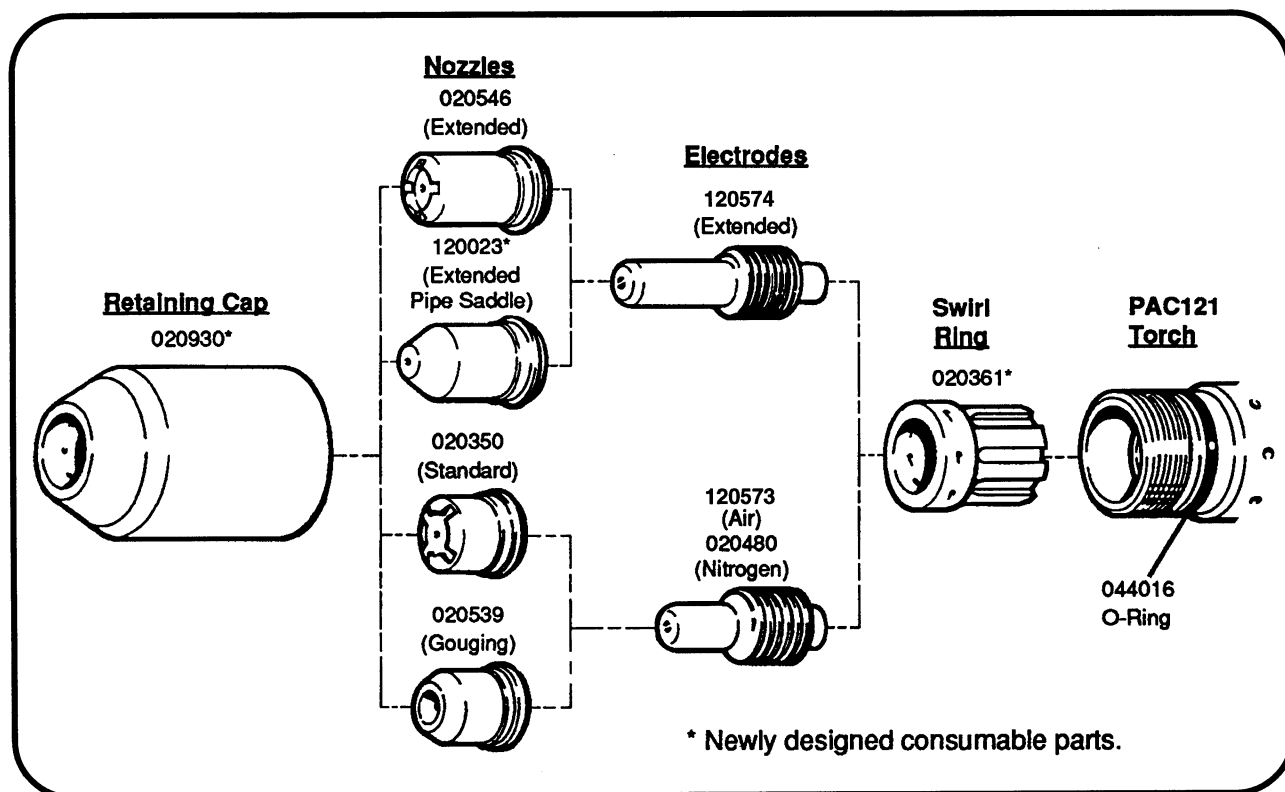

Figure 4 PAC121 Torch Consumables Parts
19. Install consumable parts, using the electrode and nozzle removed in step 2 and the new swirl ring and retaining cap provided in the upgrade kit. When the retaining cap is tightened, the microswitch will click, indicating that the torch main body has been replaced correctly. See Figure 4 for PAC121 consumables diagram.
17. Install consumable parts, using the electrode and nozzle removed in step 2 and the new swirl ring and retaining cap provided in the upgrade kit. When the retaining cap is tightened, the microswitch will click, indicating that the torch main body has been replaced correctly. See Figure 4 for PAC121 consumables diagram.
15. Position the new torch sleeve (# 020559) on to the torch main body and secure it with the three (3) screws (# 075321) using hex wrench. Torque to 7 in. lb.
17. Install consumable parts provided in upgrade kit and as shown in Figure 4. When the retaining cap is tightened, the microswitch will click, indicating that the torch main body has been replaced correctly.